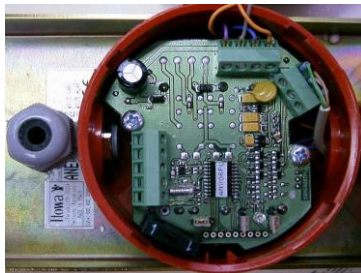

Figure 6
1. Open the anemometer siren and unscrew the 2 screws securing the printed circuit board. (figure 6).